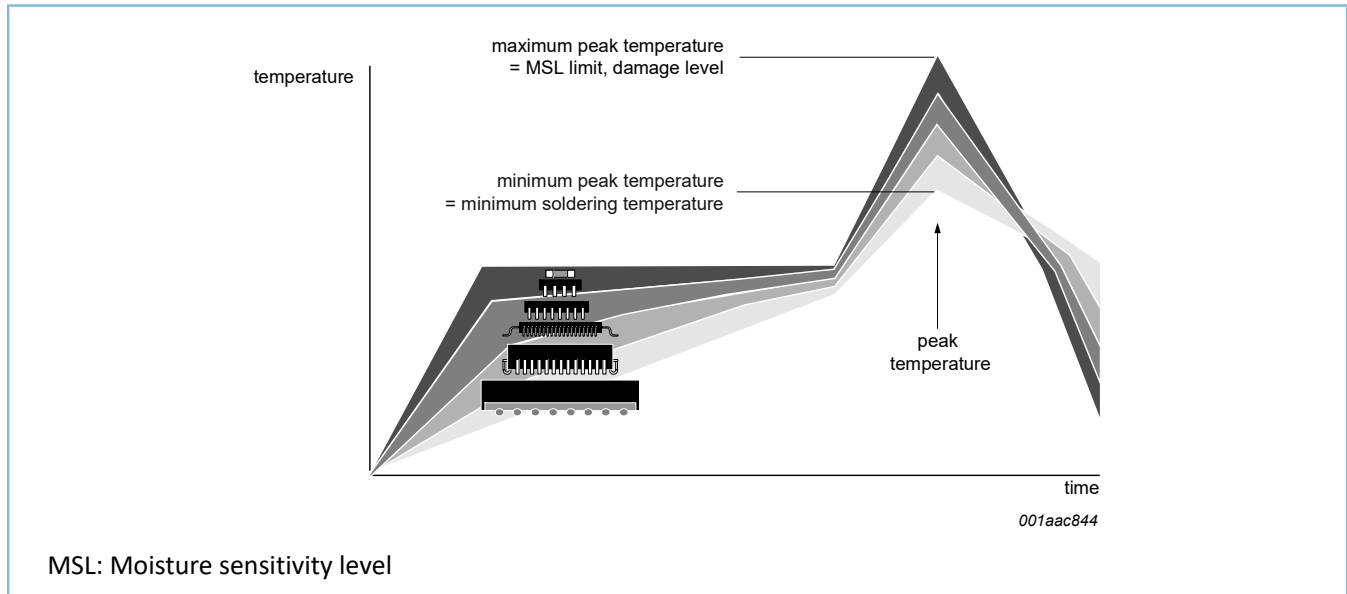

Figure 15-1: Temperature profiles
- A lead-free reflow process usually leads to higher minimum peak temperatures (see Figure 15-1) than a SnPb process, thus reducing the process window.
Studies have shown that small packages reach higher temperatures during reflow soldering (see Figure 15-1).